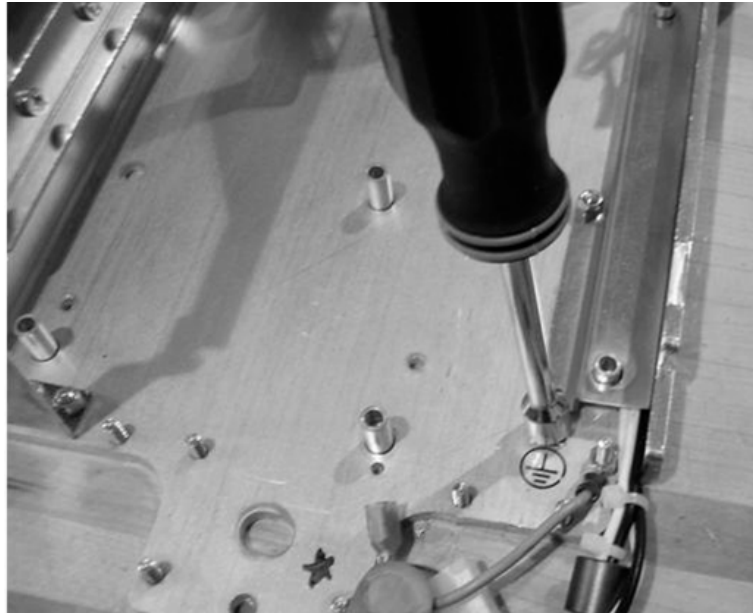

Figure 5: Removing the Power Switch Harness Shield
8. Use a 7 mm nut driver to remove the nuts that hold the Power Switch Harness Shield as shown on Figure 5.